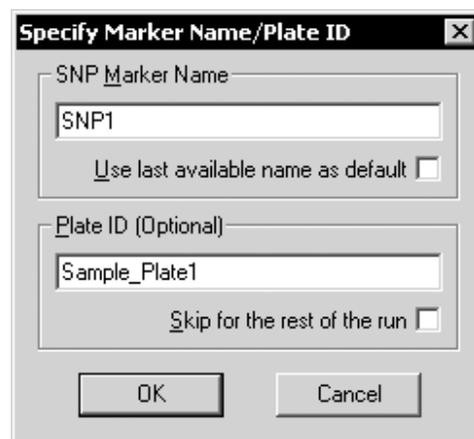

Figure 15-11. The Specify Marker Name/Plate ID window.
2. In the **Select available Plate Set** box, select the plate set ID, and click **OK**. The Specify Marker Name/Plate ID window appears (figure 15-11).
3. In the Specify Marker Name/Plate ID window (figure 15-11), enter the applicable information for the plate to be injected—
- To inject another sample plate, click **Inject**. The Specify Marker Name/Plate ID window appears (figure 15-11). Proceed to step 8. **Note:** Make sure you leave the Bar Code box blank unless you have a .psd file for the plate. If you enter a name in the Bar Code box, the software searches for a .psd file that has the same file name as the bar code.